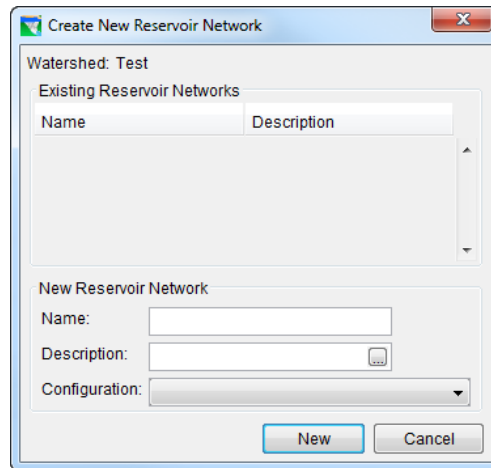

Figure 20: Create New Reservoir
- **Enter Dam Properties.** Click on **Dam** in the reservoir tree. The data area to the right of the reservoir tree will change to allow you to enter the data needed to define the dam [Section 9.4]. Before proceeding, take a look at the name of the dam. The name is probably something like “Dam at My Main River.” This is the default name the program gives to the dam. It identifies the dam based on the name of the underlying stream upon which the dam was placed. This enables the program to uniquely identify more than one dam within a reservoir. It is a rare case when a reservoir has more than one dam, so feel free to rename the dam by right-clicking on the dam name and selecting **Rename** (as shown in Figure 20). One suggestion is to name it *Dam* by removing the stream name. Another possibility is to name the dam by its actual name (many reservoirs have a name for the pool and a different name for the dam; ResSim provides the ability to name each part individually).
- **Add Outlets.** Physical **Outlets** can be added to the Dam by right-clicking on the **Dam**. Figure 20 illustrates the dam’s shortcut menu. Select **Controlled Outlet** to add a gate or other control structure to the dam [Sections 9.4.2 and 9.6]. You can rename the outlet by right-clicking on the outlet and selecting **Rename**.